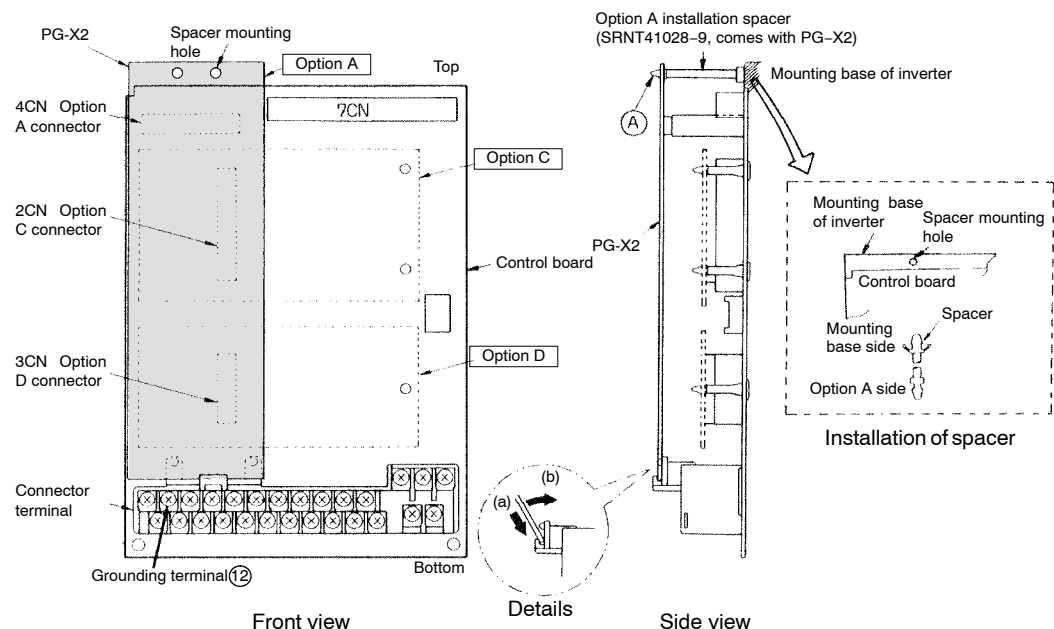

Fig. 3 Installation of PG speed controller card PG-X2
## 2 Installing to Inverter (See Fig. 3)
- ① Turn OFF the main power and wait for the time specified on the cover of the inverter. Remove the cover and verify that the CHARGE indicator lamp is OFF.
- ② Insert the attached spacer (SRNT41028-9) into the spacer mounting hole in the mounting base of the inverter. (See Fig. 3.)